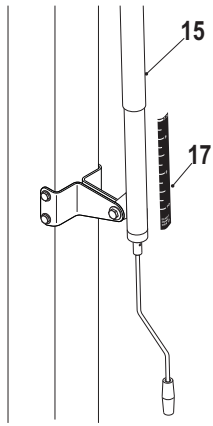

Figure 14
- 32.** Adjust unit to 7-1/2 feet. Use a tape measure to measure from the top of the rim to the playing surface. Stick Height Decal (#17) to back of Actuator (#16) with the "7.5" mark aligned with bottom of Actuator Sleeve (#15). See **Figure 14**.